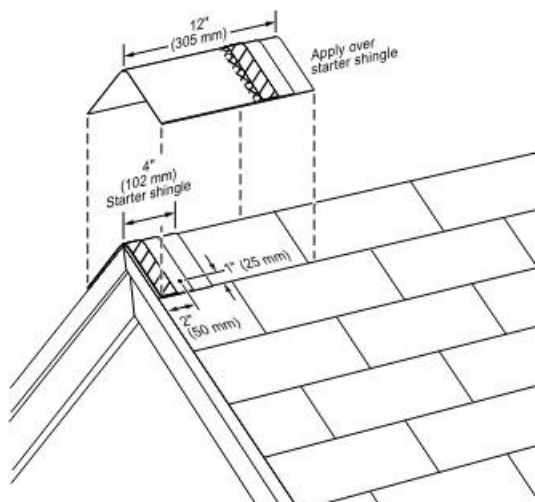
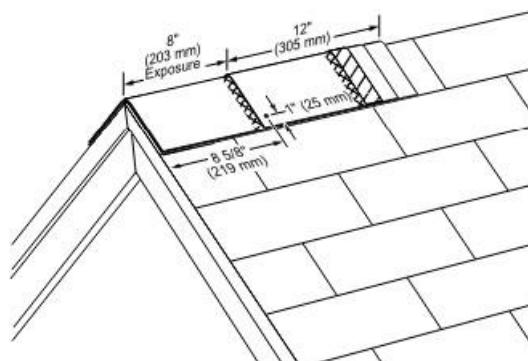

Figure: 13
Figure: 14
FASTENING IMPORTANT: Use TWO nails to fasten each shingle. Fasteners must be minimum 50mm long. For the starter shingle, place fastener 25mm in from each side edge and about 50mm up from the starter shingle's exposed butt edge, making sure fastener goes 20mm into the deck or all the way through the deck. (see Figure 13). For each full Cedar Crest shingle, place fasteners 143mm up from its exposed butt edge and 25mm in from each side edge (see Figure 14).
- Apply the 100mm starter piece with raised overlay edge over the bottom corner of the hip or to either end of the ridge, overhanging the corner or end by approximately 12mm and bending the starter shingle along its centreline to form into place (see Figure 13).
- Fasten with two nails minimum 50mm long with one nail on each side of shingle 220mm up from the butt edge and 50mm in from each side edge (see Figure 14)